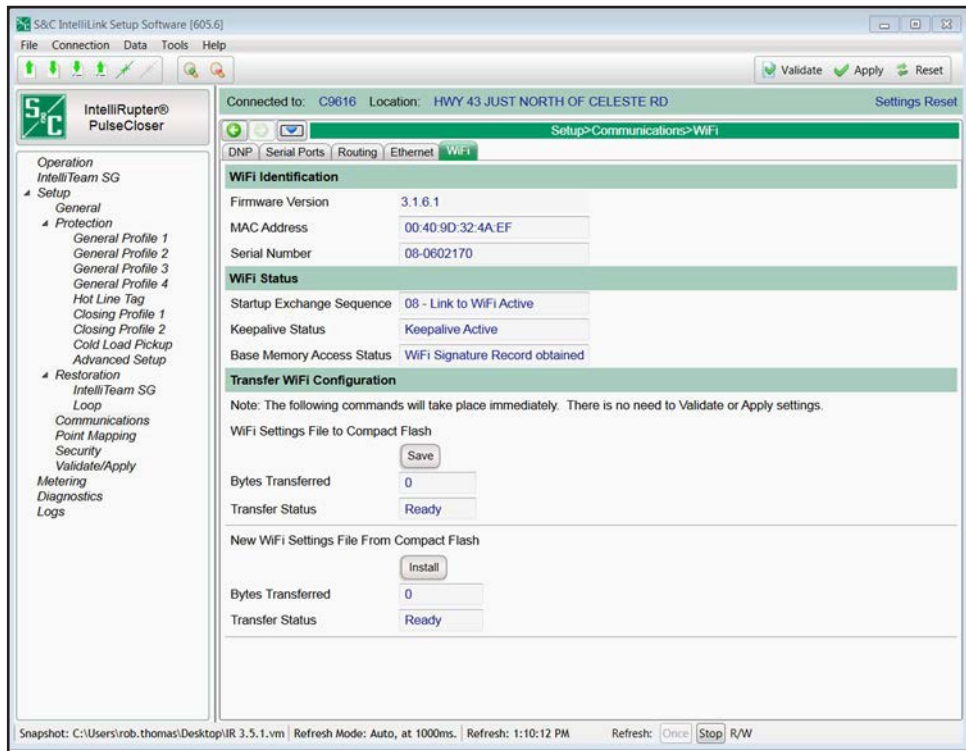

Figure 83. The *Setup > Communications > Wi-Fi* screen.
- STEP 9.** Verify the transfer status has completed. See Figure 83.